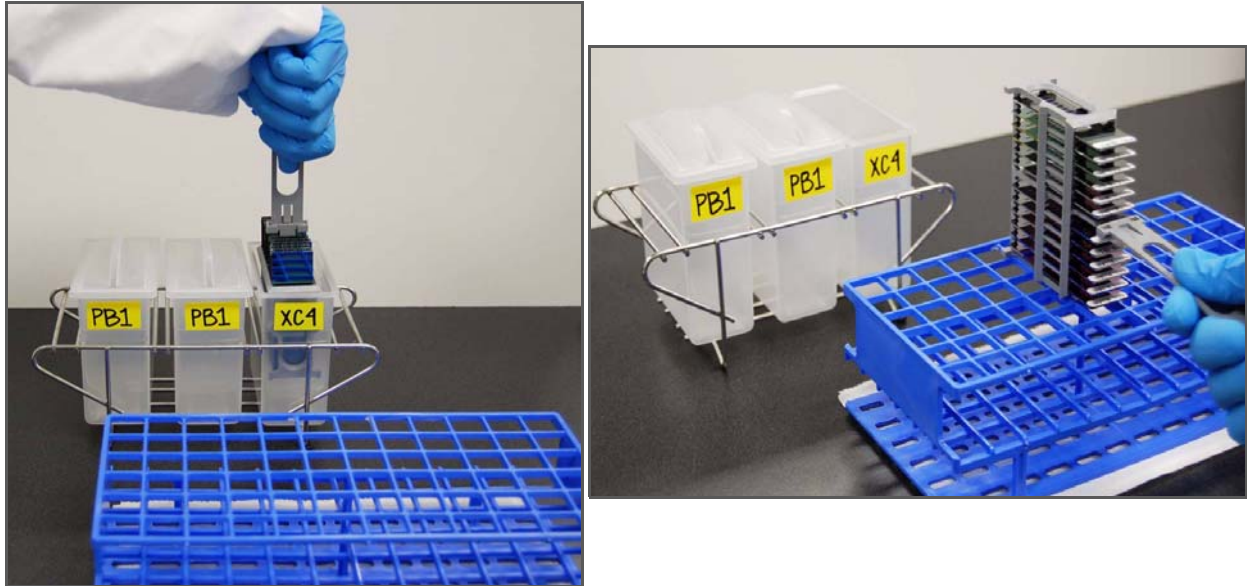
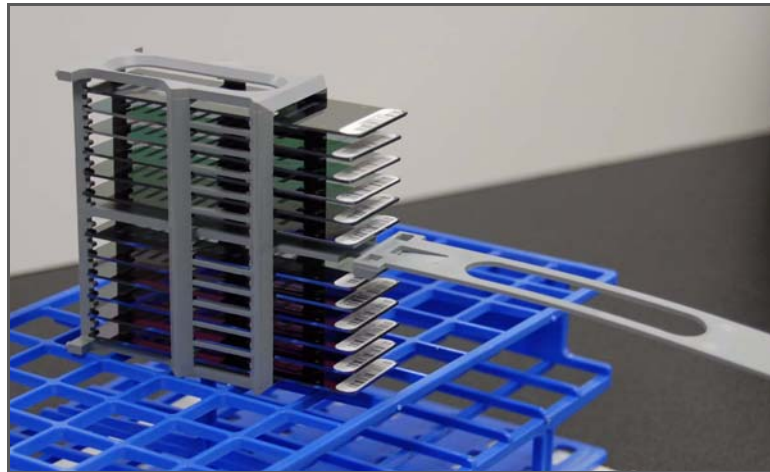

Figure 68 Moving the Wash Rack from XC4 to Tube Rack
Figure 69 Wash Rack in Correct Orientation
3. Remove the wash rack in one smooth, rapid motion and place it directly on the prepared tube rack, making sure the barcodes face *up* and the locking arms and tab face *down* (Figure 68 and Figure 69).